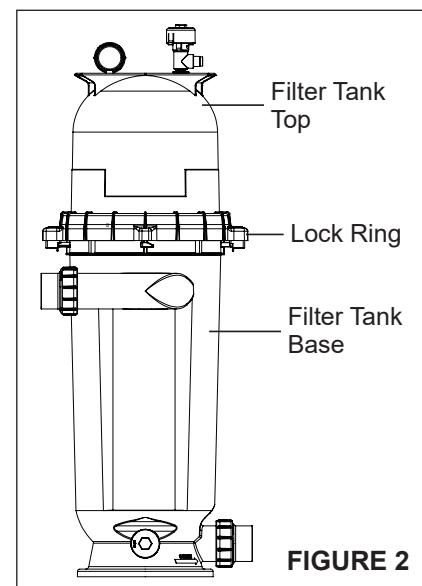

FIGURE 2
2. Ensure the O-ring is in position on the lower tank half. Place the filter lid over the lower tank half, making sure it is fully and firmly seated on the tank half, see **FIGURE 2**.